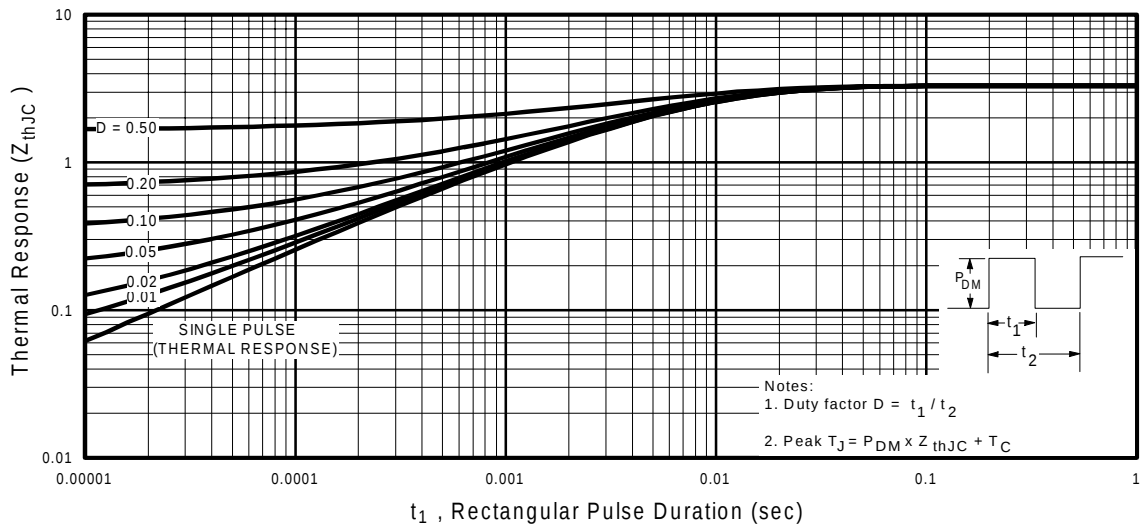

Fig 11. Maximum Effective Transient Thermal Impedance, Junction-to-Case
- ① Repetitive rating; pulse width limited by max. junction temperature. (See fig. 11)
② $V_{DD} = 25V$, starting $T_J = 25^\circ\text{C}$, $L = 1.0mH$